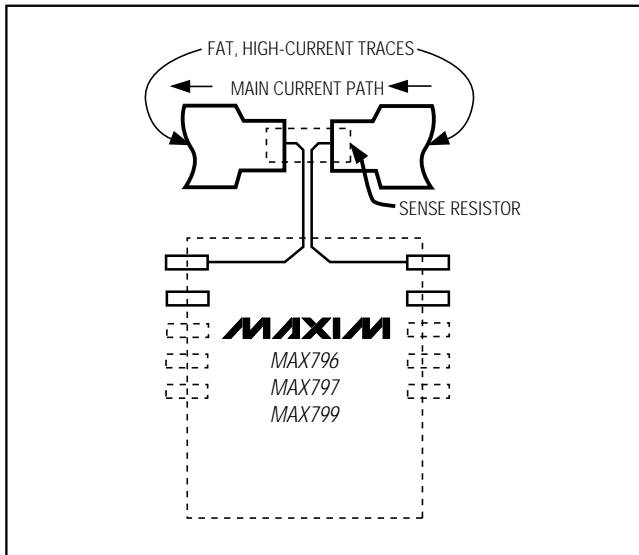

Figure 10. Kelvin Connections for the Current-Sense Resistor
- Priority 1: **Minimize current-sense resistor trace lengths** (see Figure 10).